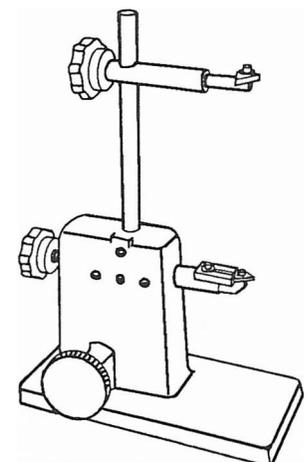

Fig. A-14
13. Detach the triangle follower (49) from the plastic molding strip. **Save the other followers.** Use a 7/64" Allen wrench, 3/8" long cap screw (47) and a flat washer (48) to attach the triangle follower to the follower support (46), as shown in Fig. A-12. Fig. A-14 illustrates the completely assembled tool rest assembly.